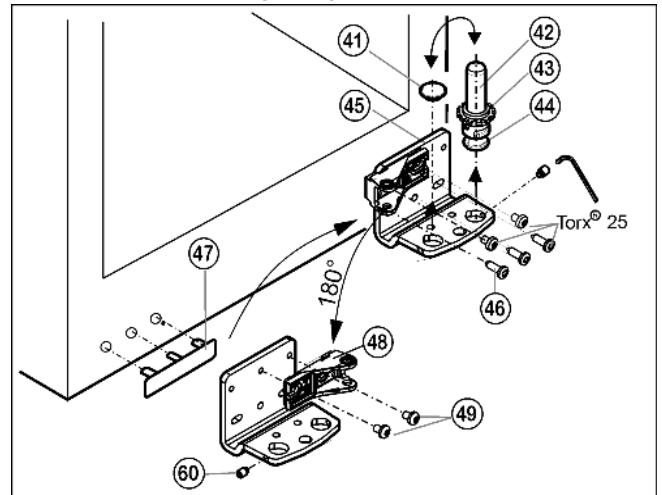

Fig. 13
- ▶ Using the accompanying Allen key, unscrew the threaded pin Fig. 13 (60) by about 1 turn.
- ▶ Turn and lift out the bearing pin Fig. 13 (42) together with the washer Fig. 13 (43) and adjustable-height foot Fig. 13 (44).
- ▶ Lift out the stopper Fig. 13 (41).
- ▶ Unscrew Fig. 13 (46) the turn hinge Fig. 13 (45).
- ▶ Fully unscrew the threaded pin Fig. 13 (60) and screw it in on the opposite side, at the turn hinge, until it is flush outside with the turn hinge.
- ▶ Unscrew the bearing element Fig. 13 (48), turn it through 180° and screw Fig. 13 (49) it firmly back into place.
- ▶ Re-insert the stopper Fig. 13 (41) into the other hole.
- ▶ Carefully lift off the cover on the handle side Fig. 13 (47) and transfer it to the opposite side.
- ▶ Screw the turn hinge Fig. 13 (45) firmly into place on the new hinge side, possibly using a cordless screwdriver (**with 4 Nm**).
- ▶ Screw the bearing pin Fig. 13 (42) into place again, complete with washer and adjustable-height foot.
- ▶ Tighten the threaded pin Fig. 13 (60).
- ▶ Place the door from above onto the lower bearing pin Fig. 13 (42).
- ▶ If necessary, align the doors to the appliance housing by way of the two oblong holes in the bottom turn hinge Fig. 13 (45) and middle turn hinge Fig. 11 (31). To do so, unscrew the middle screw in the bottom turn hinge Fig. 13 (45).